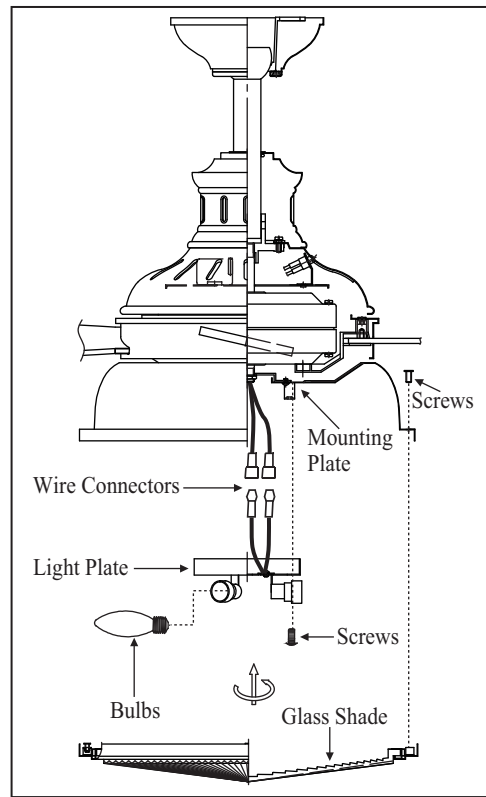

Figure 17
2. Carefully push all wires back into the mounting plate, then install the light plate onto the mounting plate with 3 screws provided. Be sure to tighten all screws. (Fig. 17)
3. Install 3 x 40W candelabra bulbs (included). (Fig. 17)
4. Install the glass shade assembly to the mounting plate with screws provided. (Fig. 17)